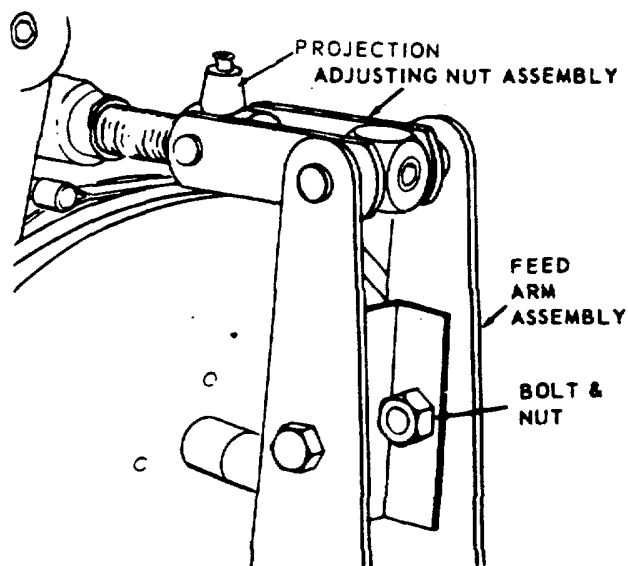
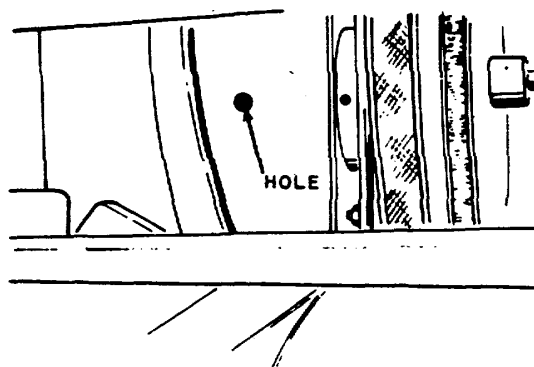

FIGURE 119
FIGURE 120
See Figure 119. Facing back of machine, remove Bolt and Nut from top right side of Feed Arm Assembly. Spring sides apart and disconnect feed arm from Adjusting Nut Assembly. Now hold Nut to keep it from turning and wind Feed Dial counterclockwise until Nut comes off shaft. Reverse this procedure to install new Adjusting Nut Assembly. Make sure Projection on Adjusting Nut Assembly extends upward as shown in Figure 120.
- (a) See Figure 120. Stick a 3/8" (9.5mm) diameter rod into Hole in side of housing and turn spindle until rod engages hole in center of spindle shaft.